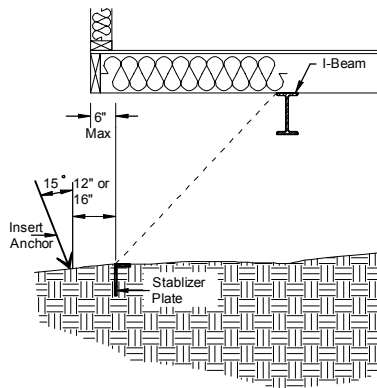

Figure 83. Determining anchor and stabilizer plate location
1. **Locate anchor.** Select a location for the anchor under the home but within six inches of the exterior wall (**Figure 83**). Avoid locations that will interfere with skirting.